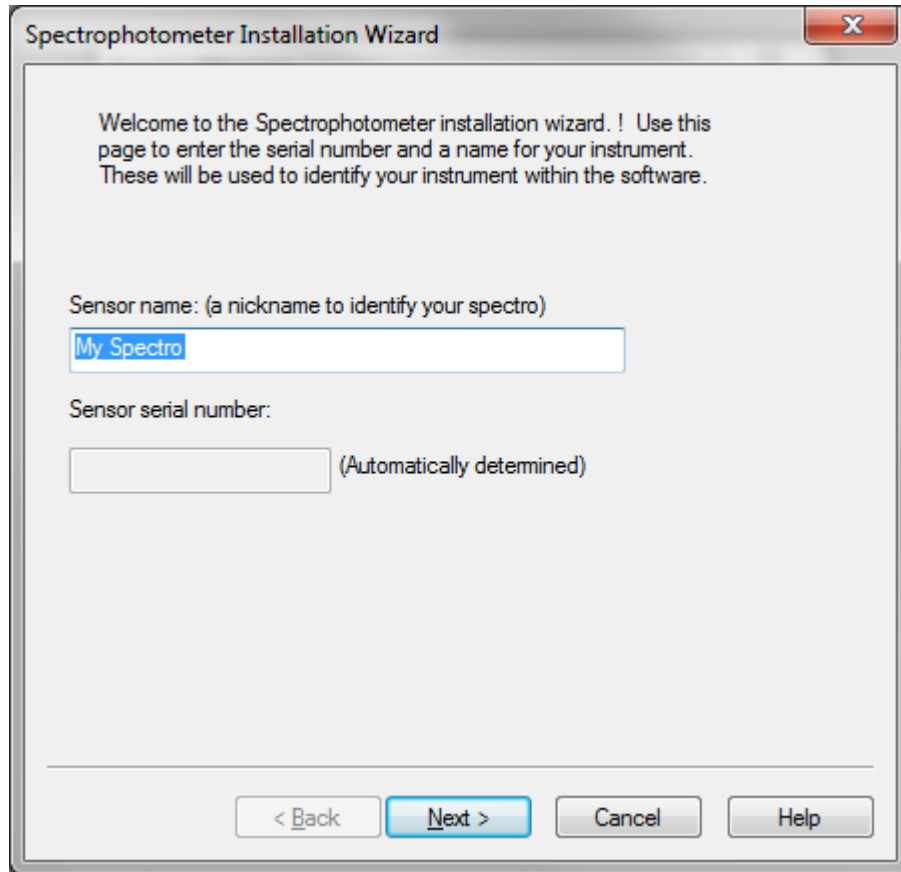

Figure 4 —Sensor Name
7. On the next dialog (see Figure 4), enter the name of your spectrophotometer into the space provided. Depending on your instrument make and model, you may need to enter the serial number of your instrument and click <Next>.